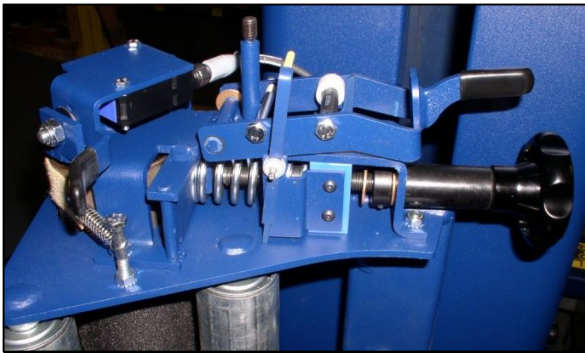

Figure 7.54
1. Use a 10 mm Allen wrench to remove the FDS cover (Figure 7.54).